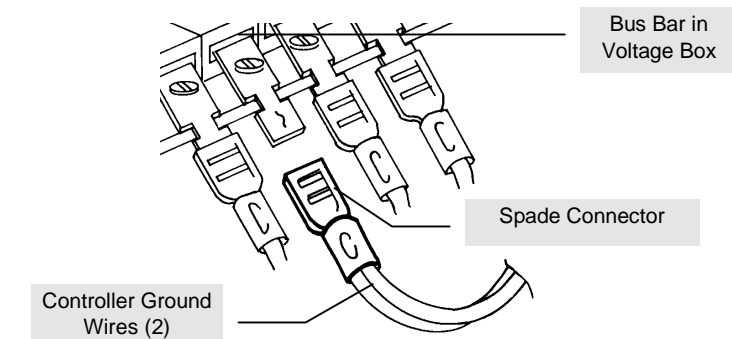

Figure 2 Removing Spade Connector From Bus Bar
2. Locate the spade connector, with two ground wires on it (generally on the second terminal of the lower bus bar) and remove the spade connector from the bus bar (see figure 2). Verify that vehicle power to the AntiLock controller is off by noting that the green LED on the AntiLock Controller is no longer illuminated even though vehicle power is on.